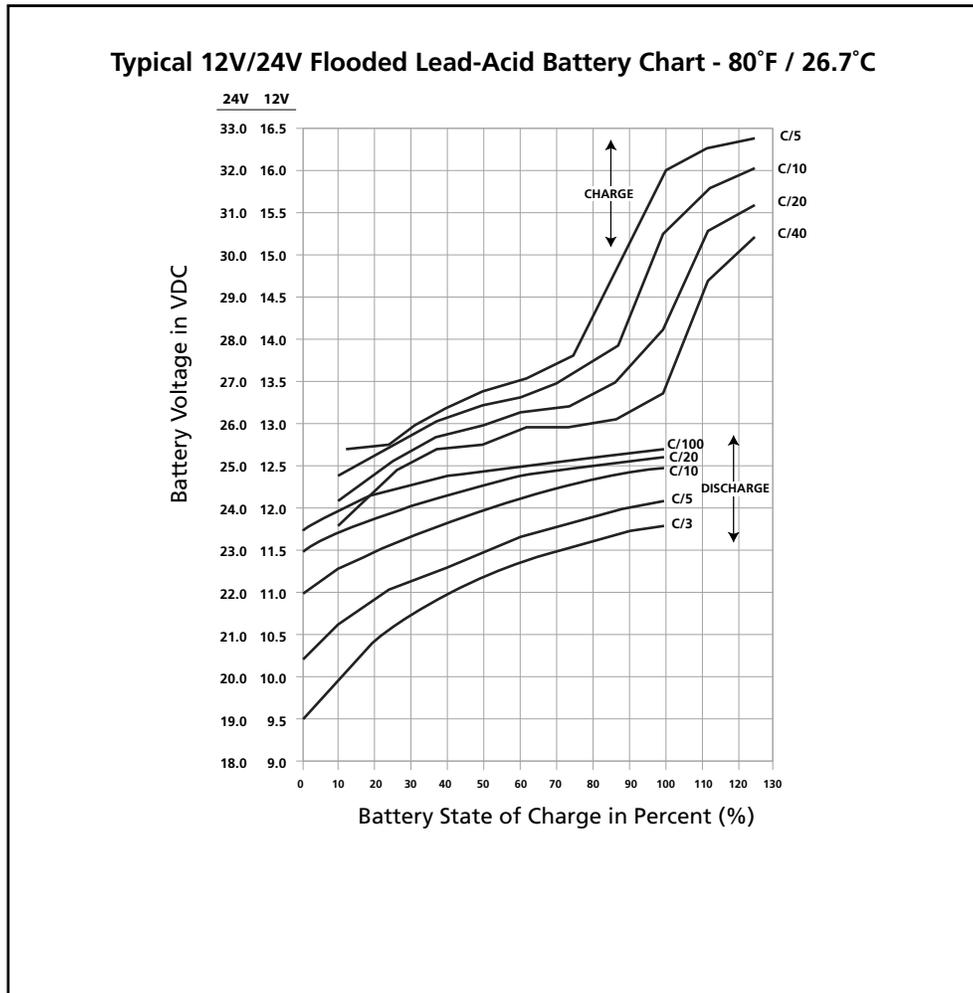

Fig 1.4.1 Charging / Discharging Curves for Typical 12V/24V Flooded Lead Acid Battery
1.4.11.1 Fig 1.4.1 shows examples of State of Charge / Discharge Curves for different *C-rates* for typical 12V / 24V Lead Acid Battery Bank / Bank at 80°F / 26.7°C. These curves are used to determine the State of Charge / Discharge of the battery based on its terminal voltage.
1.4.11.2 **Example of Determining State of Charge (using Fig 1.4.1) when Charging 12V, 100Ah Battery Pack / Bank at C-rate of 0.1C or C/10 or 10A:** Refer to Charge Curve marked C/10 of the upper 4 curves marked "CHARGE". States of Charge at different battery terminal voltages will be: (a) At 15.3V = 100% charged; (b) At 14.3V = 90% charged; (c) At 13.5V = 70% charged; (d) At 12.5V = 15% charged
1.4.11.3 **Example of Determining State of Discharge (using Fig 1.4.1) when Discharging 12V, 100Ah Battery Pack / Bank at C-rate of 0.33C or C/3 or 33.3A:** Refer to Charge Curve marked C/3 of the lower 4 curves marked "DISCHARGE". States of Discharge at different battery terminal voltages will be: [a] At 9.5V = 100% discharged (0% charged); [b] At 10.4V = 80% discharged (20% charged); [c] At 11.5V = 28% discharged (72% charged) and [d] 11.75V = 0% discharged (100% charged).
The discharge curves in Fig. 1.4.1 show the % State of Charge versus the terminal voltage of typical Flooded Lead Acid Battery under different charge /discharge currents, i.e. “C-rates” and fixed temperature of 80°F. *(Please note that the X-Axis of the curves shows the % of State of Charge. The % of State of Discharge will be 100% - % State of Charge).*
As stated earlier at Section 1.4.14, the buzzer alarm is triggered when the voltage at the DC input terminals of the inverter has dropped to around 10.5V for a 12V battery pack / bank or 21V for 24V battery bank at C-rate discharge current of C/5 Amps. Please note that the terminal voltage relative to a particular State of Discharge decreases with the rise in the value of the discharge current. For example, terminal voltages for a State of Discharge of 80% (*State of Charge of 20%*) for various discharge currents will be as given at Table 1.4.5 (*Refer to Fig. 1.4.1 for parameters and values shown in Table 1.4.5*):
Inverters are normally provided with a protection to shut down the output of the inverter if the DC voltage at the input terminals of the inverter drops below a threshold of around 10V for a 12V battery or, 20V for 24V battery. Referring to the Discharge Curves given in Fig 1.4.1, the State of Discharge for various C-rate discharge currents for battery voltage of 10V / 20V is as follows: *(Please note that the X-Axis of the curves shows the % of State of Charge. The % of State of Discharge will be 100% - % State of Charge)*: